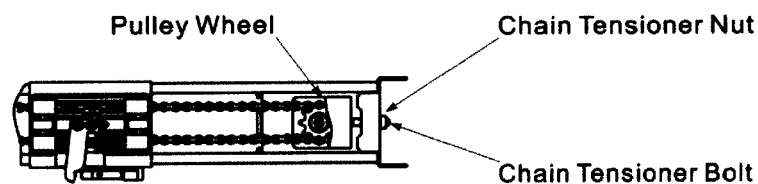

Fig 3C
- Insert the Chain Tensioner Bolt (Fig.3C) into the hole of the Terminal Bracket and affix the Tensioner Nut
- Tighten the Tensioner Nut (Fig.3C) until the Drive Chain has approximately 3~5mm of sag at its mid point.